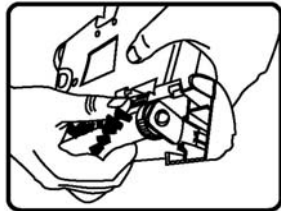

Fig. 13
5. Lift the brush bar end cap up from the slot. (Fig. 13)
9. Insert the brush bar into the slot. (Fig. 13)
5. Pull the brush bar out of the bushing. (Fig. 13)
8. Slide the belt over the brush bar cap and then insert the brush bar into the slot. (Fig. 13)